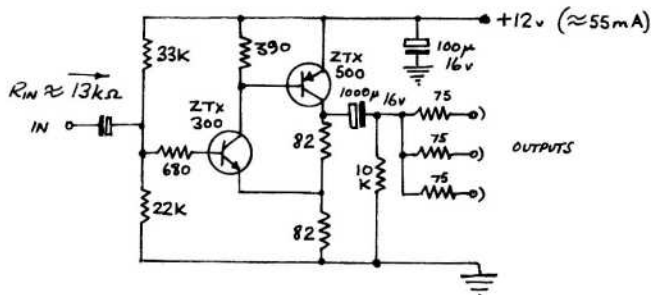

Fig.6 SIMPLE V.D.A. (SINGLE RAIL SUPPLY)
V.D.A.'s should have the capability of driving several mutually isolated 75-ohm outputs, all correctly terminated. The input impedance should be high enough to allow several (say 10) inputs to be paralleled across 75-ohms without measurably dropping the signal level. Figs 6, 7 & 8 show examples.